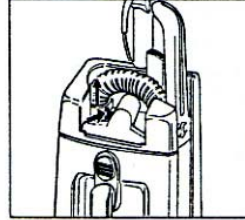

Figure 11
- The suction hose can be disconnected from the unit by pressing the locking lever. <Figure 11>